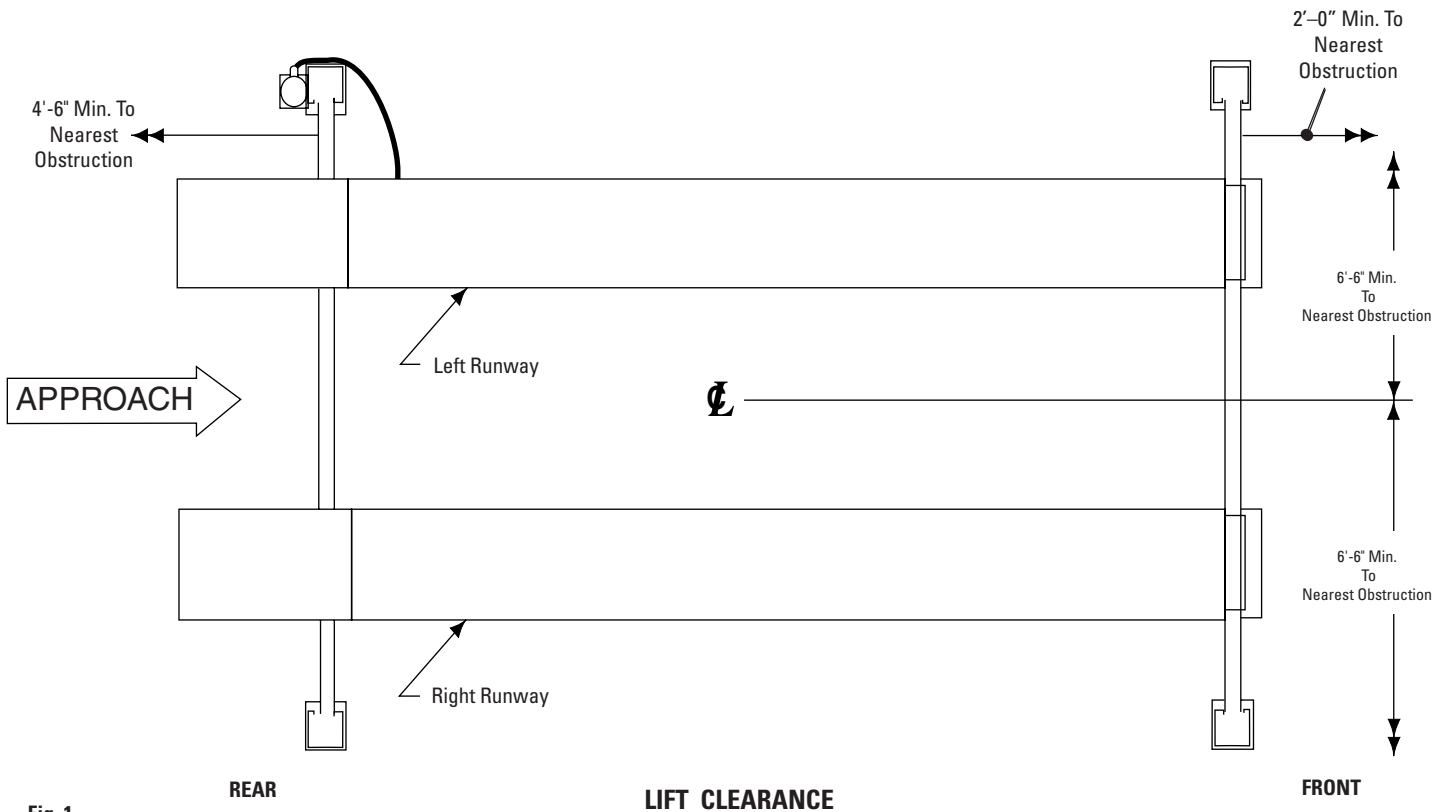
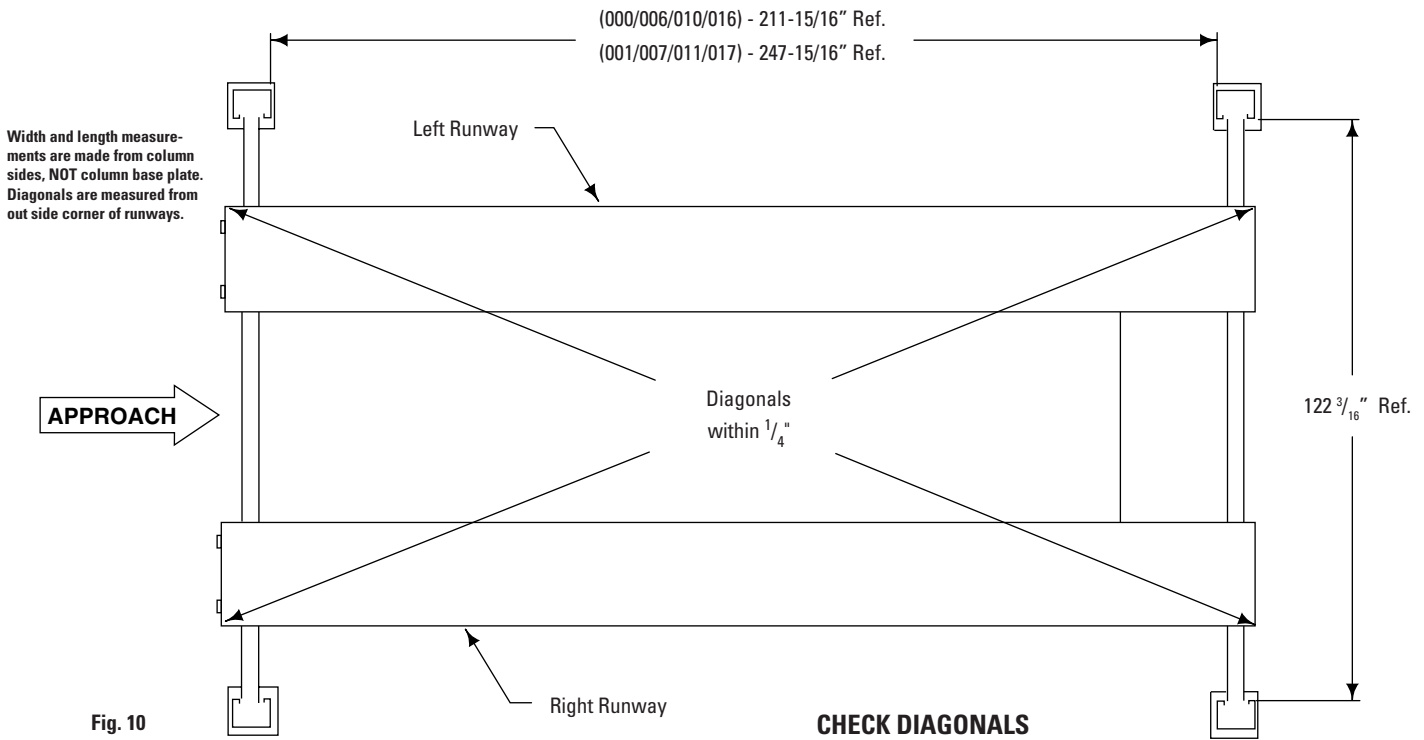

Fig. 1
Fig. 10
- 1. Lift Location:** Use architects plan when available to locate lift. Fig. 1 shows dimensions of a typical bay layout. For power unit at right front, rotate lift 180°, leaving ramp/chocks and wheel stops in original position. Lift floor area should be level.
C. Position front and rear yokes at respective ends of runway, Fig. 1. The opening in the side of the yokes should be lined up with the cable sheaves in the runway ends. Feed cable ends through yoke openings, Fig. 4 and 9. Do not assemble sheaves in yoke ends at this time.
- A. Keep columns square to center line of lift. Check lift location in the bay, Fig. 1. Check dimensions side-to-side, front-to-rear, and diagonally. Diagonals must be equal to within 1/4", Fig. 10.